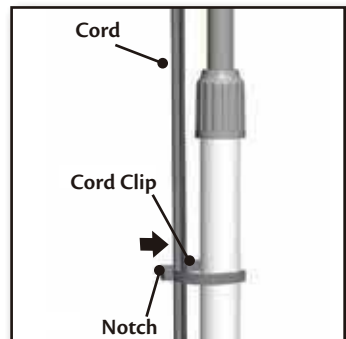

Figure 19
11. Straighten the cord from the motor housing along the telescopic pole, and snap the cord clip over the cord onto the pole so that the cord rests in the notch on the clip. Figure 19.